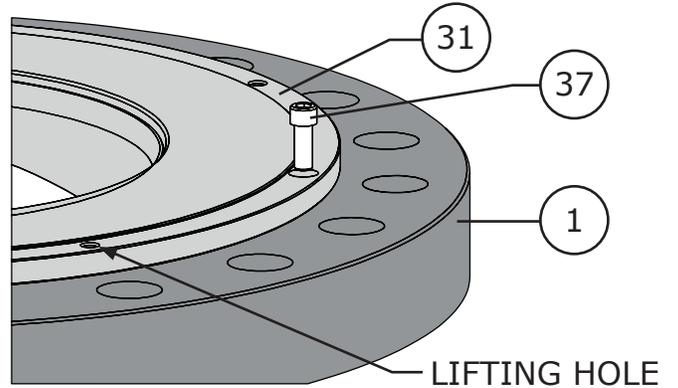

Figure 65 Seal Protector Ring Retaining Parts Installation
- 7 For 1 to 8 Inch 570 Valves (Refer to Figure 65):**
- For 1 to 12 Inch 571/573 Valves (Refer to Figure 65):**
- For 16 Inch Valves (Refer to Figure 65):**
7 For 1 to 8 Inch Valves (Refer to Figure 65):
For 10 to 12 Inch Valves (Refer to Figure 65):
7 For 16 Inch Valves (Refer to Figure 65):
4 Carefully install the flow ring (Key 32). **NOTE:** 16 inch flow rings have threaded holes, it may be necessary to install lifting hooks into the flow ring to safely lift and lower it in to position. Refer to Figure 65.
5 For 1 to 8 Inch Valves (Refer to Figure 65):
For 16 Inch Valves (Refer to Figure 65):